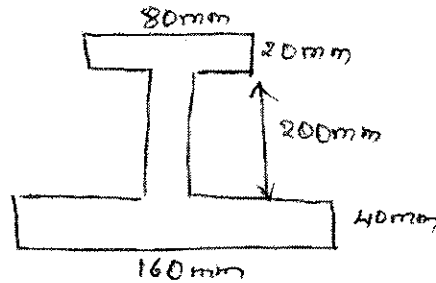

Fig.Q7(b)
b. A cast iron beam section shown in Fig.Q7(b) is freely supported on a span of 5m. IF the tensile stress is not to exceed 20 N/mm². Find the safe UDL which the beam can carry. Find also the maximum compressive stress. (10 Marks)